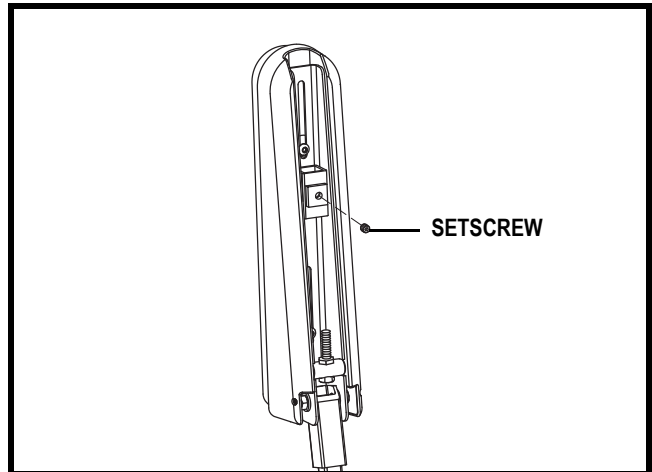

Figure 12. Controller Installation (Underside of Armrest)
2. On a contour seat, flip up the armrest and loosen the setscrew. **See figure 12.** On the standard seat, loosen the setscrews in the mounting block.